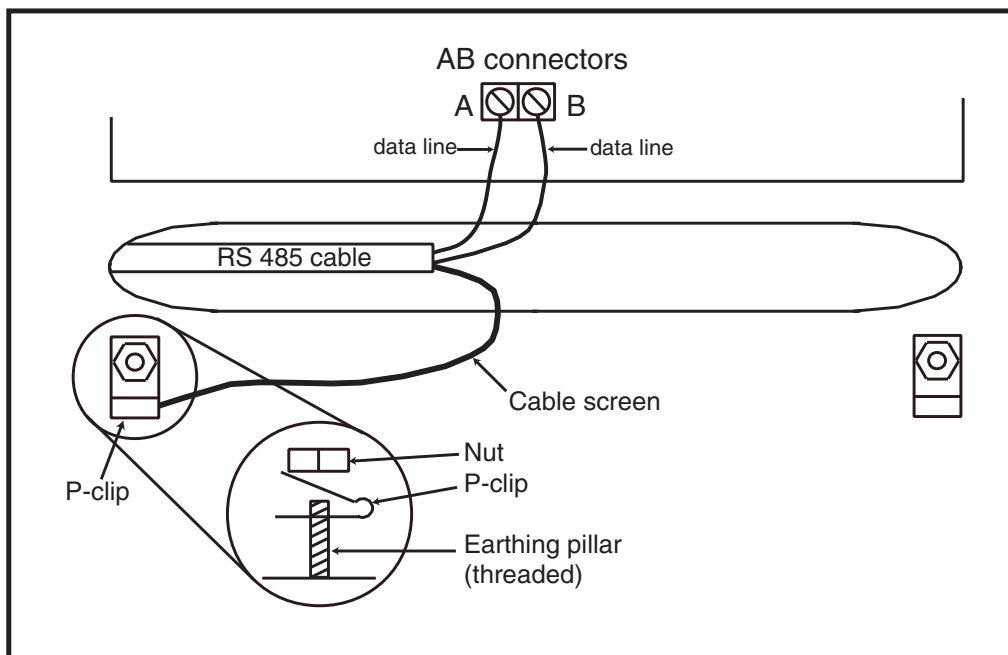

Figure 2-8. Connection of cable screen using P-Clip
4. Shielded twisted pair cable, where used, is connected to the earthing pillar on the Galaxy control panel using the P-clip and nut supplied (refer to Figure 2-8).